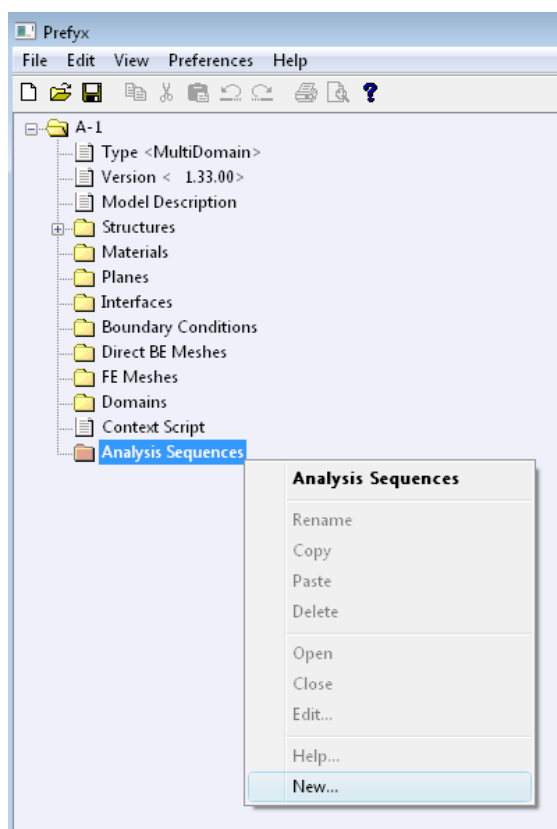

Figure 7.1: Creating new analysis sequence.
- **Create a New Analysis Sequence.** To create a new analysis sequence right-click on **Analysis Sequences** and select **New**. A dialog box with new analysis sequence opens up. Go through all the *tabbed* windows to modify analysis parameters. To accept changes click OK. (Figure 7.1)